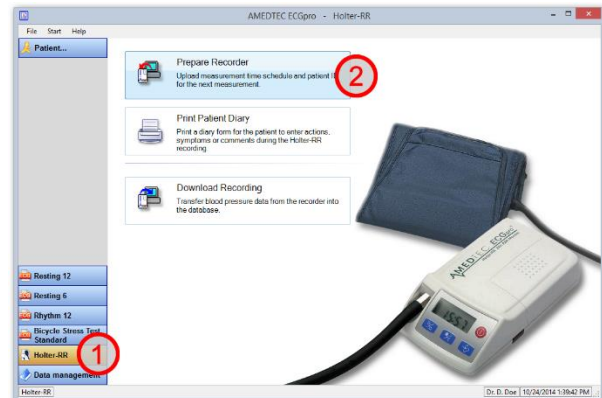

Figure 1: Holter-RR main menu
Now enter the Holter-RR main menu (see previous section) and press the **Prepare Recorder** button (② in Figure 1).